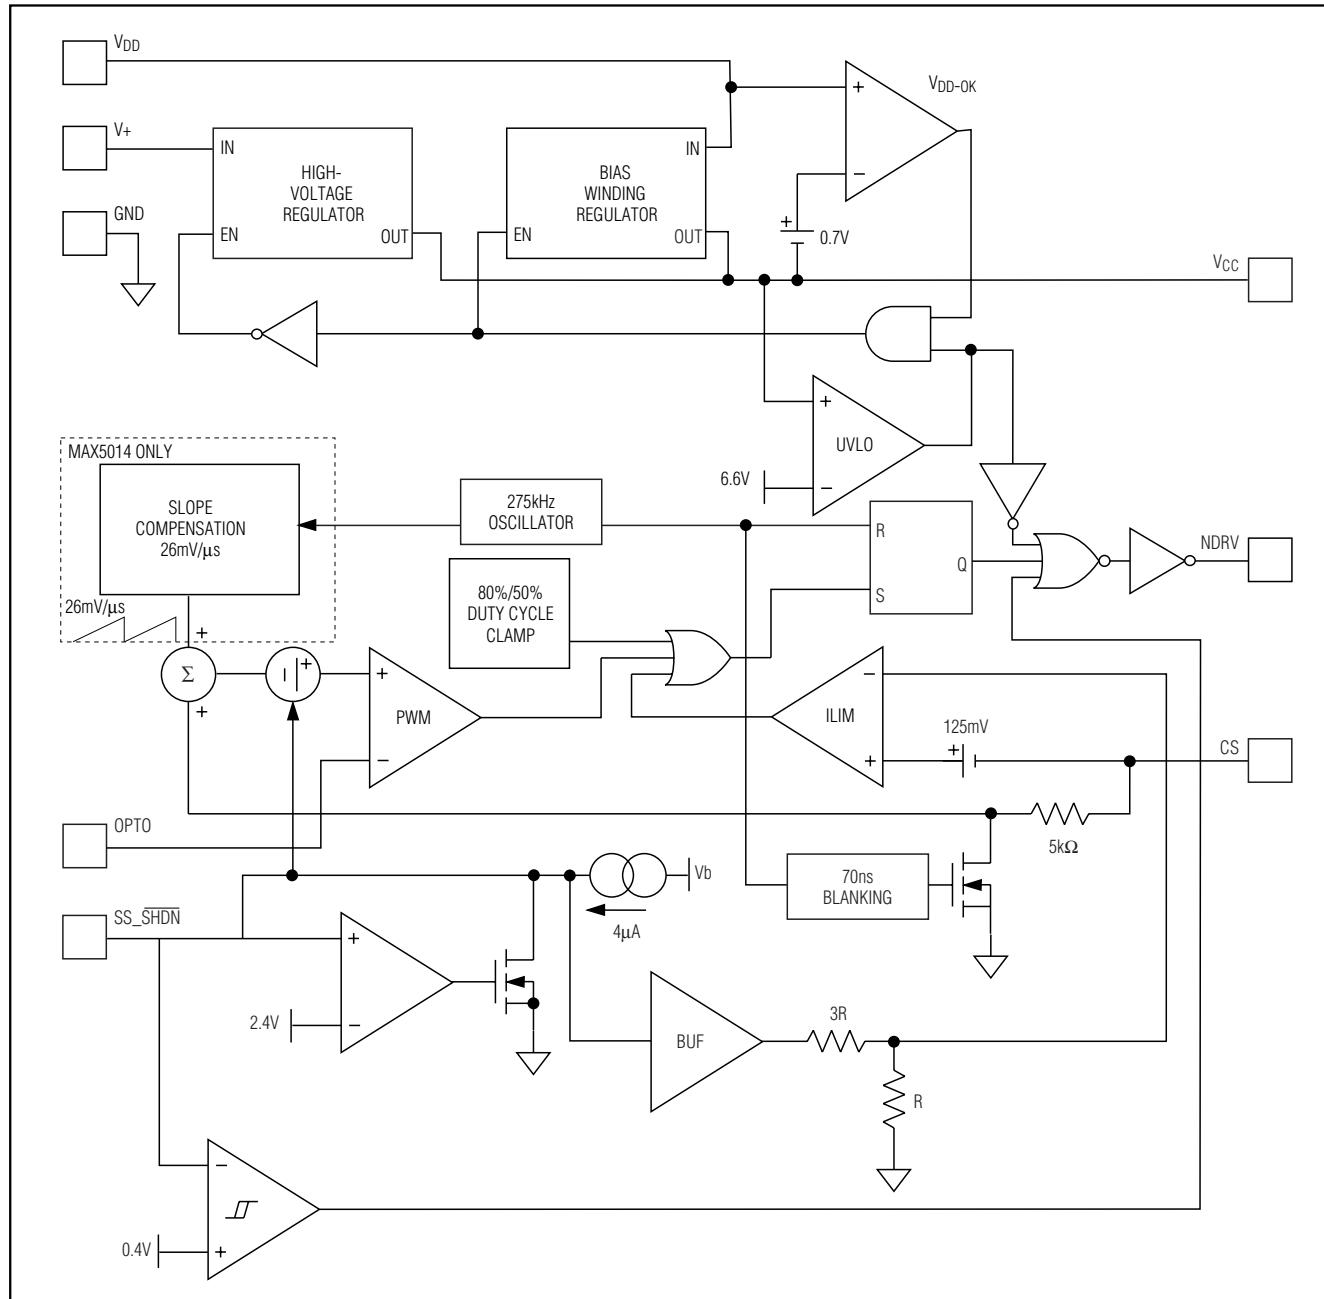
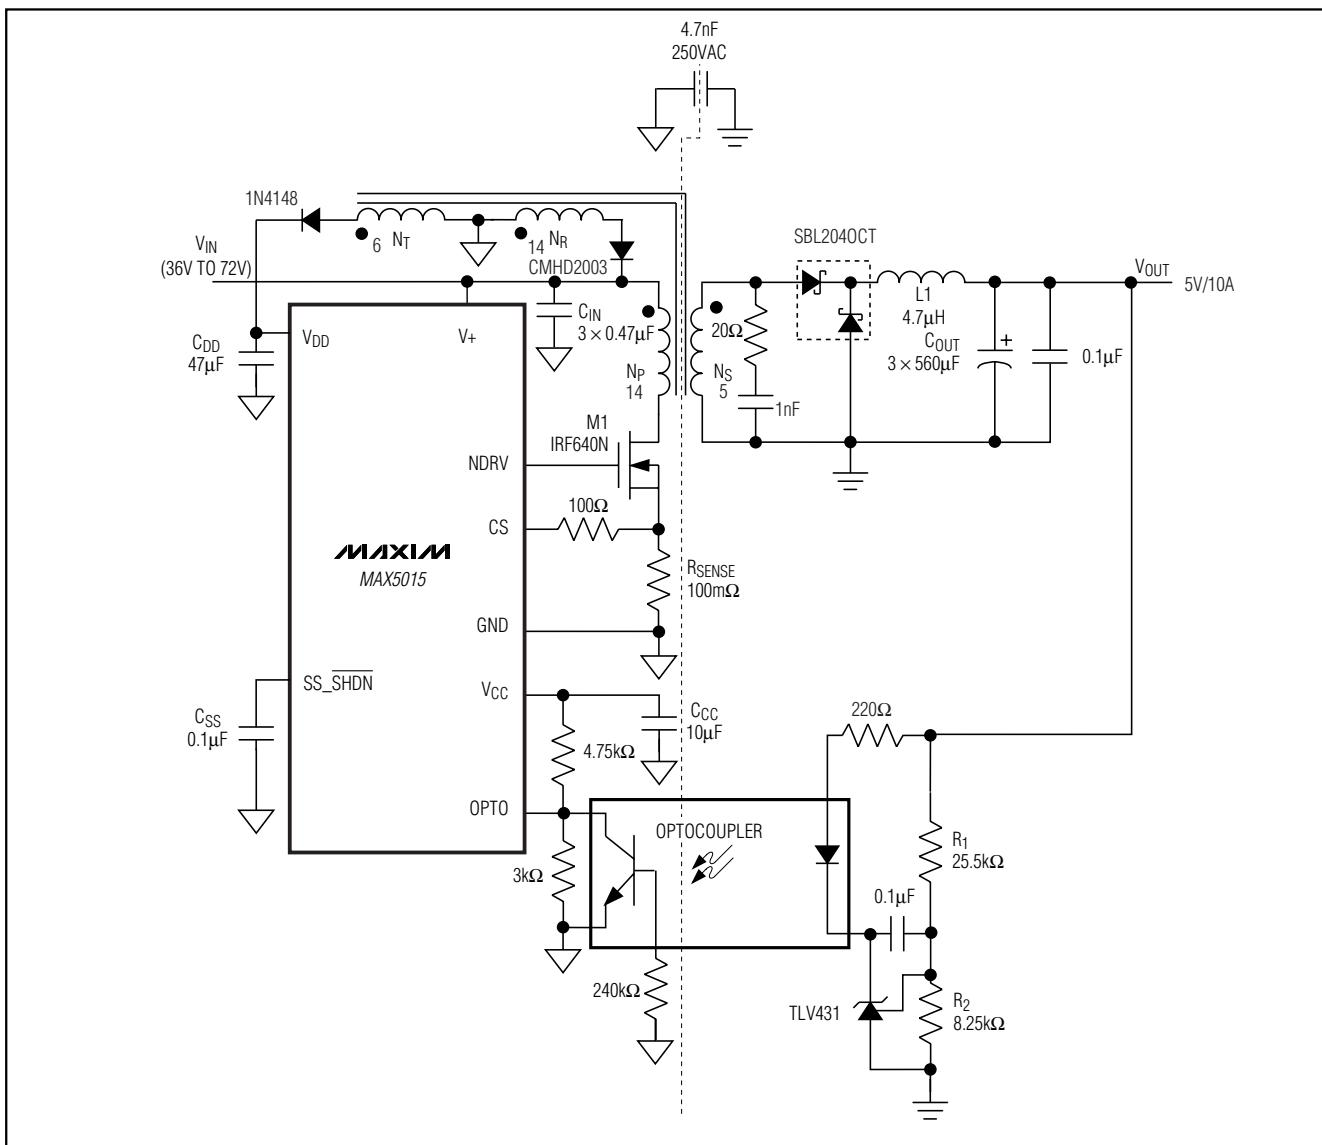
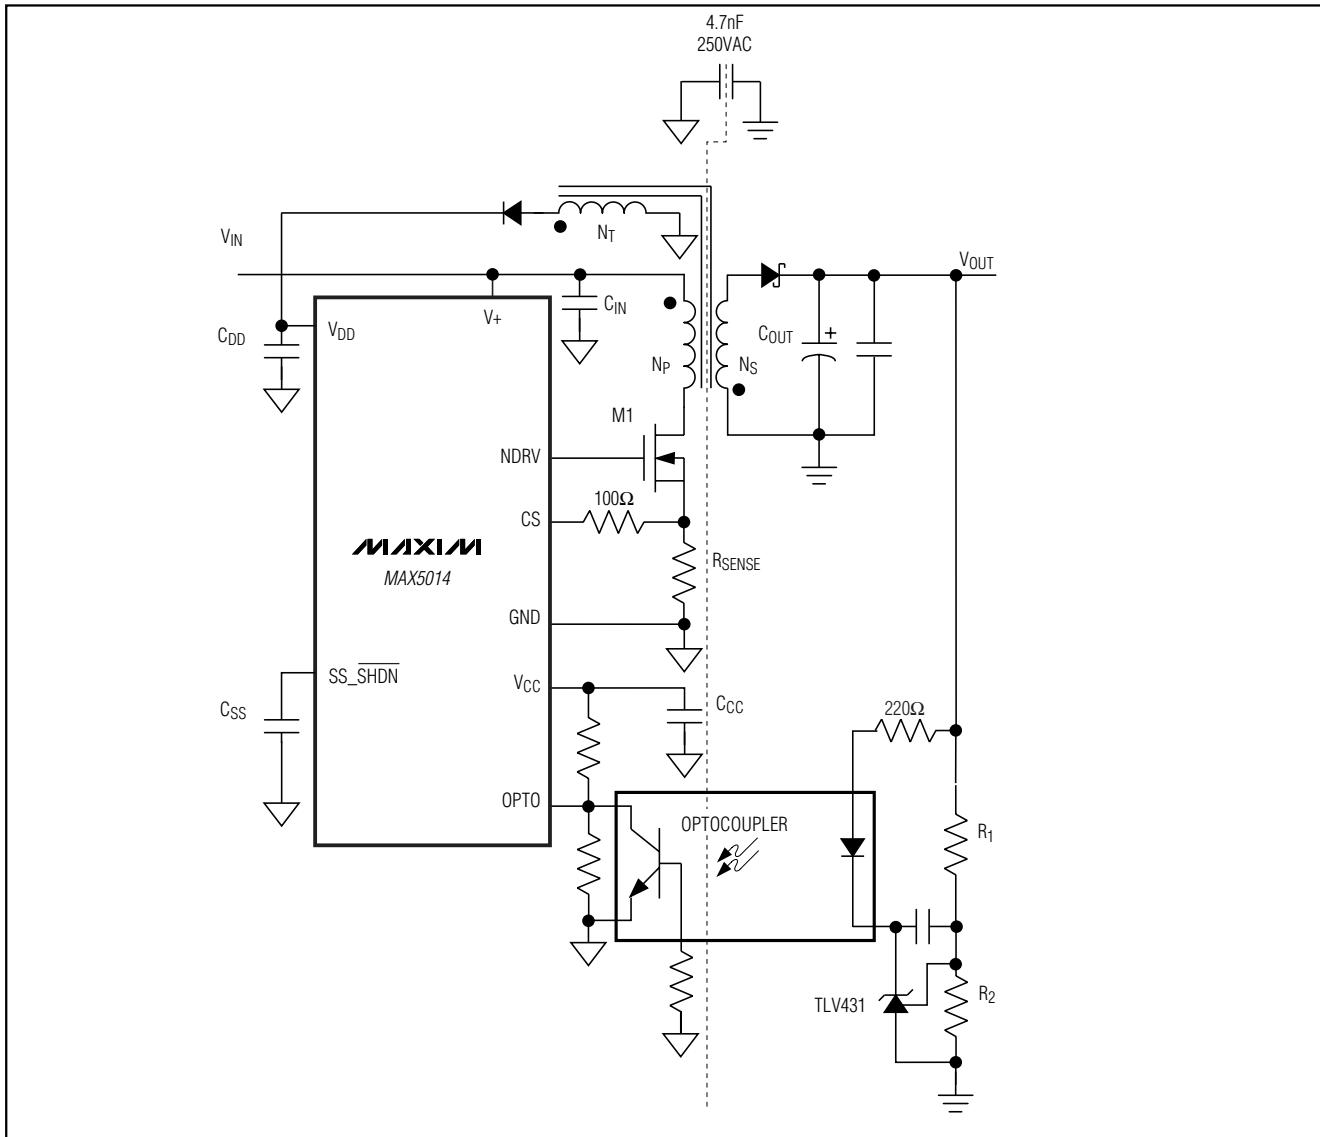

Figure 1. Functional Diagram
Figure 2. Forward Converter
Figure 3. Flyback Converter
Use the MAX5014/MAX5015 PWM current-mode controllers to design flyback- or forward-mode power supplies. Current-mode operation simplifies control-loop design while enhancing loop stability. An internal high-voltage startup regulator allows the device to connect directly to the input supply without an external startup resistor. Current from the internal regulator starts the controller. Once the tertiary winding voltage is established the internal regulator is switched off and bias current for running the IC is derived from the tertiary winding. The internal oscillator is set to 275kHz and trimmed to  $\pm 10\%$ . This permits the use of small magnetic components to minimize board space. Both the MAX5014 and MAX5015 can be used in power supplies providing multiple output voltages. A functional diagram of the IC is shown in Figure 1. Typical applications circuits for forward and flyback topologies are shown in Figure 2 and Figure 3, respectively.
Isolated voltage feedback is achieved by using an opto-coupler and a shunt regulator as shown in Figure 2. The output voltage set point accuracy is a function of the accuracy of the shunt regulator and feedback resistor-divider tolerance.
where  $C_{\text{ss}}$  is the soft-start capacitor as shown in Figure 2.
The current-sense (CS) comparator and its associated logic limit the peak current through the MOSFET. Current is sensed at CS as a voltage across a sense resistor between the source of the MOSFET and GND. To reduce switching noise, connect CS to the external MOSFET source through a  $100\Omega$  resistor or an RC low-pass filter (Figures 2, 3). Select the current-sense resistor,  $R_{\text{SENSE}}$  according to the following equation:
The following is a general procedure for designing a forward converter (Figure 2) using the MAX5015.
The circuit in Figure 2 was designed as follows:
where  $V_{REF}$  is the reference voltage of the shunt regulator, and  $R_1$  and  $R_2$  are the resistors shown in Figures 2 and 3.